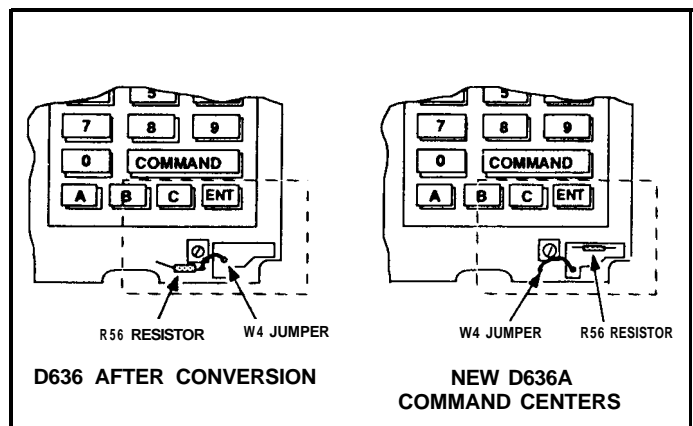

Figure 3: D636A CHANGES
The only difference between the D636 and the D636A is the addition of the keypad backlight jumper (W4) which is present on the D636A Command Center (refer to **Figure 3**) and a product ID label on the back of the command center base. These are the only visual indications between the two assemblies.
Figure 3 also illustrates the difference between a new D636A and a D636 converted to a D636A.
10.3 Connect the D5100 to the D636A Programmer Connection (see Figure 3 and 7) using the D5106 Programmer Interface Cord or the D5103A Programmer Cord.